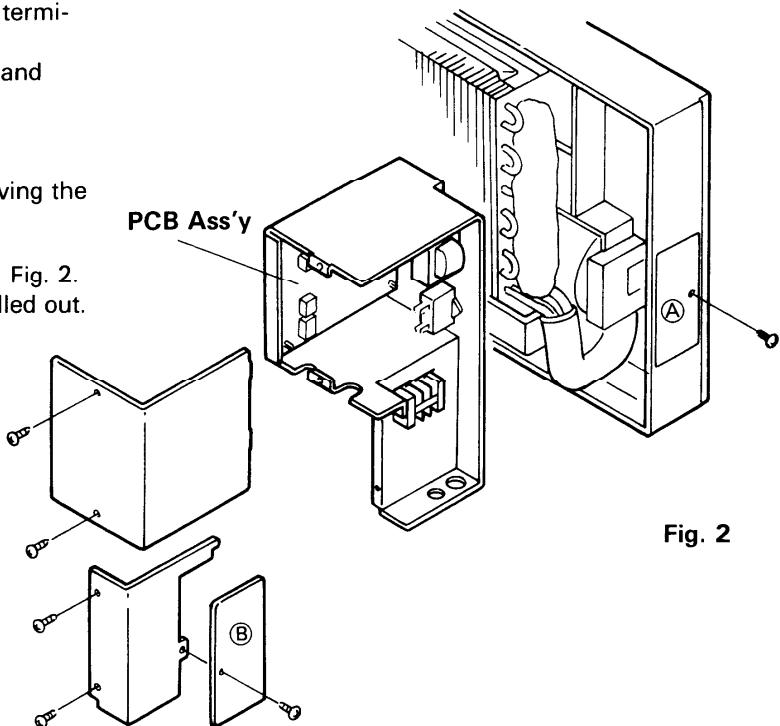

Fig. 2
- 4) Remove or loosen the connector socket and lead wires in accordance with Fig. 2.
- 5) Unfasten the screws in accordance with Fig. 2.